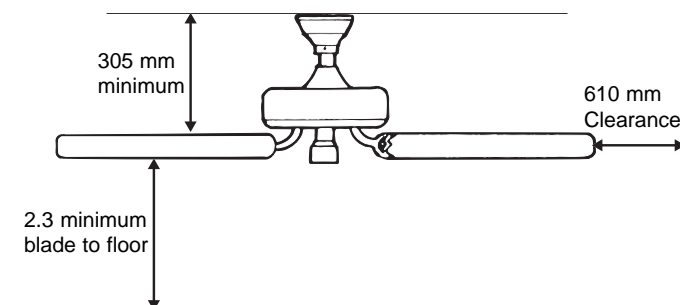

Figure 1 - Finding an appropriate installation site
- A. Select your installation site. Normally this is near the center of the room, often replacing a light fixture. Make certain that ample clearance is left for the rotating fan blades. For maximum efficiency, no obstruction (walls, posts, etc.) should be within 610 mm of the tips of the blades. Refer to Figure 1. Mounting site should also meet the precautions listed in Step 3.